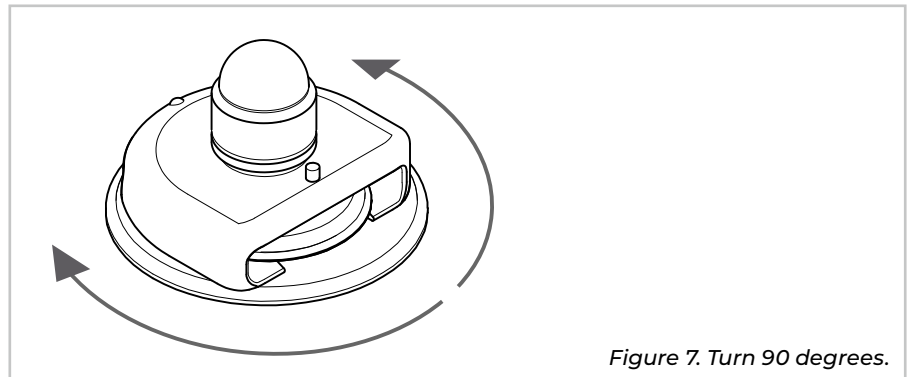

Figure 7. Turn 90 degrees.
- 2 Rotate the cleat 90 degrees, clockwise or counterclockwise, to secure (Figure 7).